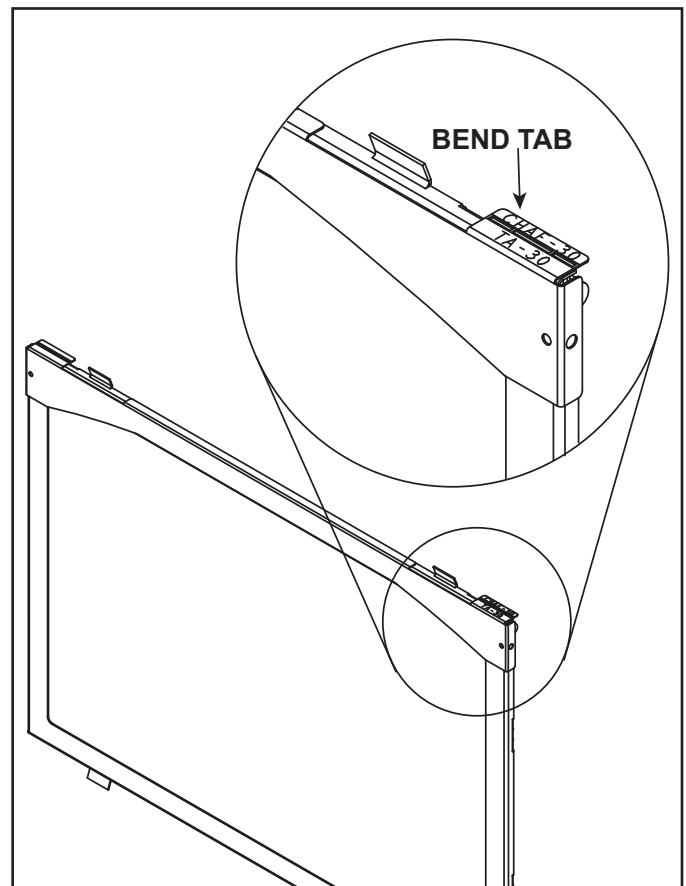
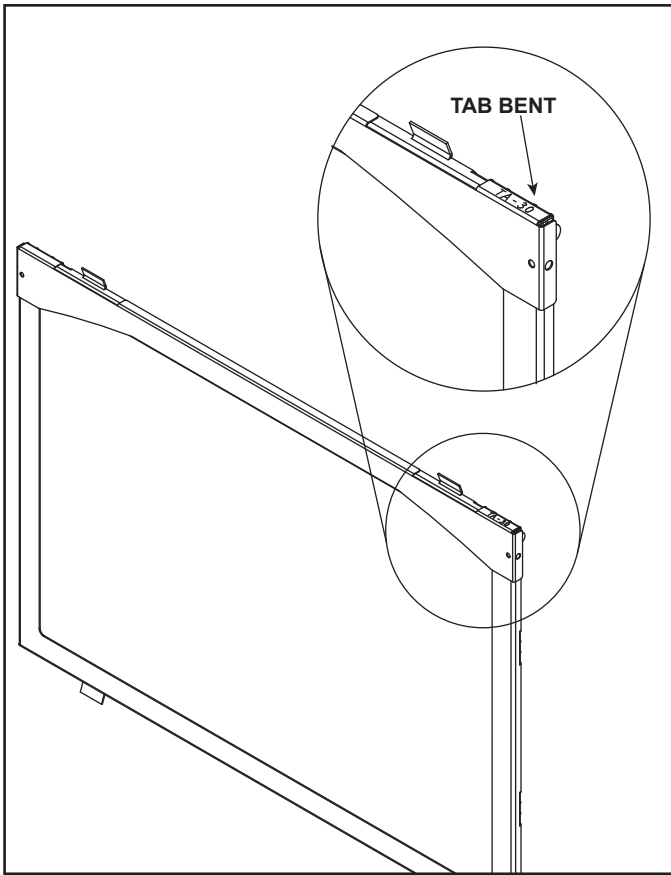

Figure 4. Location of Hand Bend Tabs - Forged Arch
Figure 5. Tabs Bent to Secure Vanity Panel - Forged Arch
3. Locate the hand bend tabs on left and right sides indicated in Figure 4. Bend the tabs downward as shown in Figure 5.